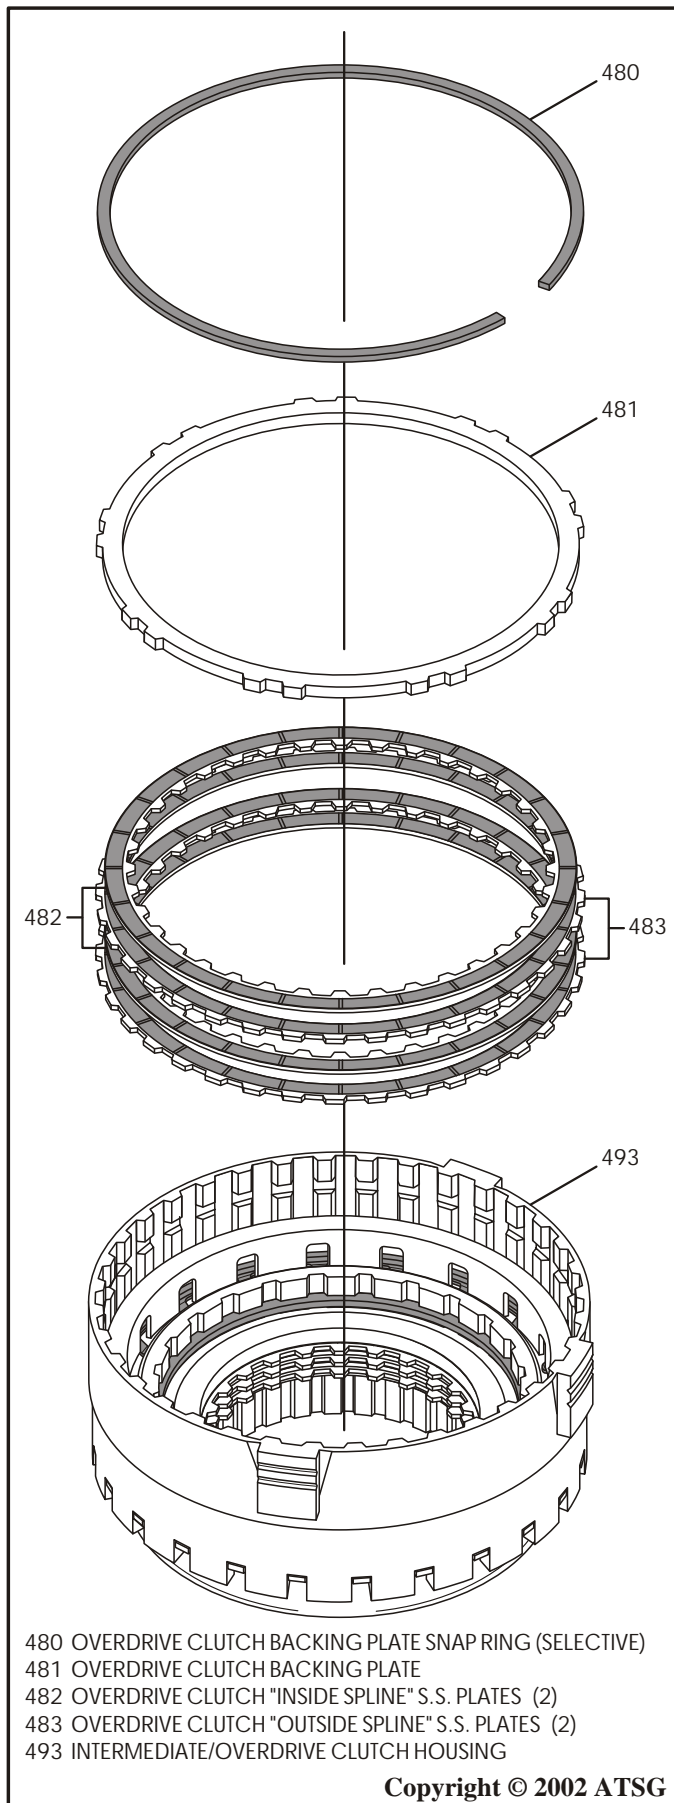

Figure 126
20. Install the overdrive clutch "single sided" plates beginning with an outside spline plate first and alternating with inside spline plates until you have installed 2 of each (See Figure 126).
**Note: Lined side must be installed facing up as shown in Figure 126. Clutch plate amounts may vary by model.**
21. Install the overdrive clutch backing plate, as shown in Figure 126.
22. Install the "Selective" backing plate snap ring, as shown in Figure 126, and ensure that snap ring is fully seated against the top of snap ring groove in the housing.